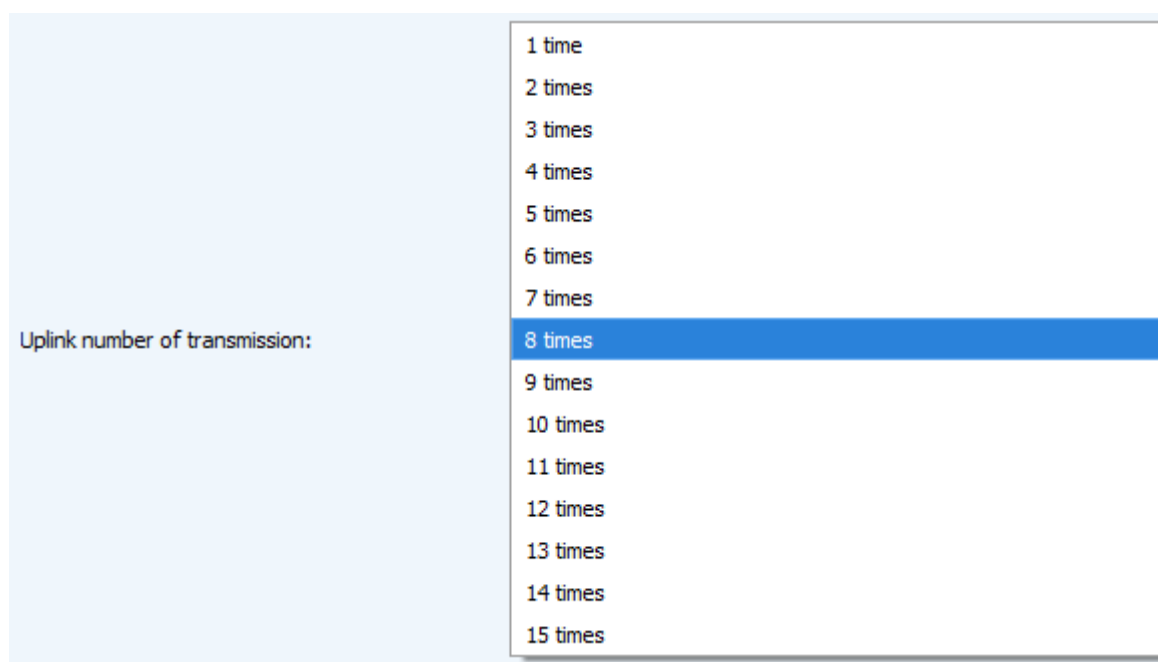

Figure 20 — Choice of the uplink number
3.5.2.7 «Uplink number of transmission» (not displayed in the "Simple" mode) – sets the number of uplink during the one communication session (fig. 20). if the "Confirmed uplinks" function is disabled, the device will simply send each packet as many times as specified in this option. If "Confirmed uplinks"